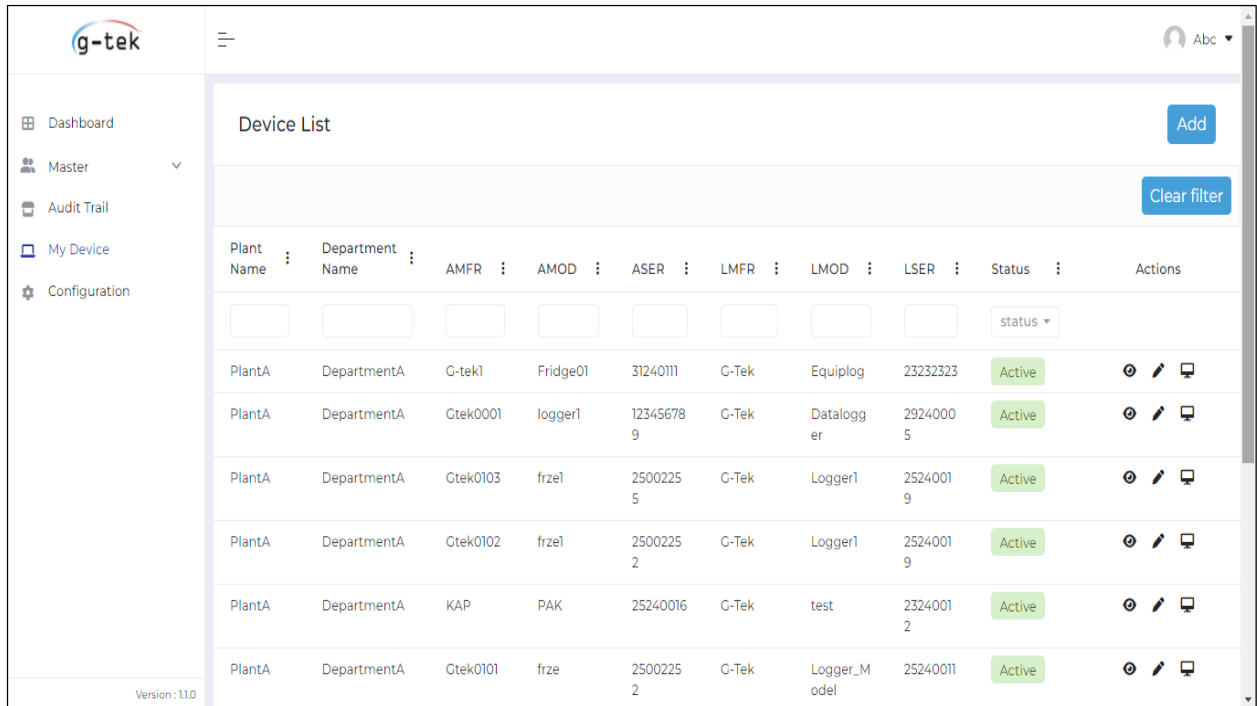

Figure 32 Add device in GtekCloud Application
- Add the data logger details by selecting the “Total Devices” icon on the application window. Click on the Add button to fill up the appliance and logger information as shown in the figure 32.